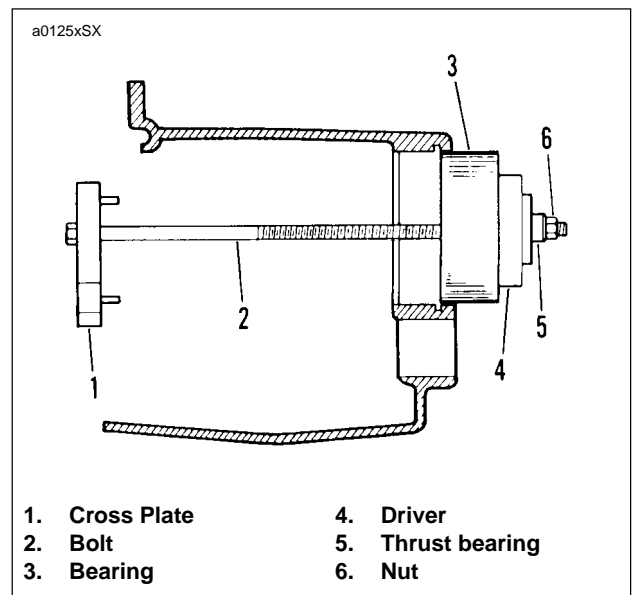

Figure 6-71. Installing Mainshaft Ball Bearing
2. See Figure 6-71. Insert bolt (2) through cross plate (1), **new** bearing (3), driver (4) and thrust bearing (5). Thread nut (6) on end of bolt. Tighten nut carefully until bearing is started in bore squarely. Tighten nut (6) until bearing is seated against shoulder in bore.